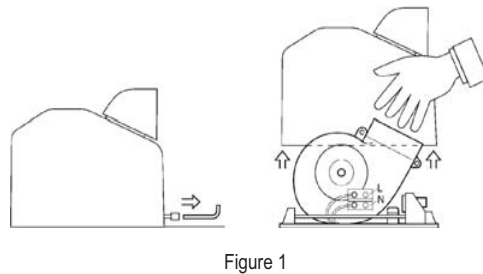

Figure 1
- Damaging cover (See Figure 1).
- Drill four holes (Fig.1) Ø 5/16 inches (Ø 8mm) diameter and inches 1 3/4 (45 mm.) depth.
- Percer quatre trous (Figure 1) de 5/16" (8 mm) de diamètre, et de 1 3/4" (45 mm) de profondeur.